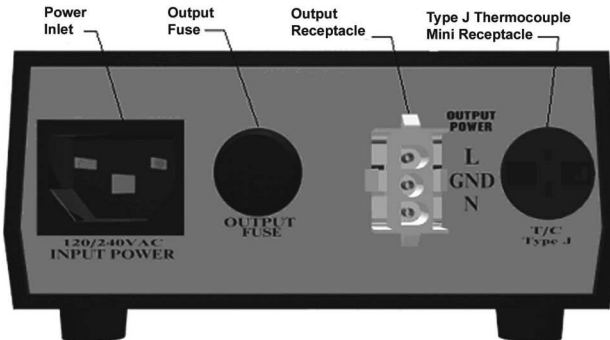

Figure 2: Pictorial of Controller (Back)
1. Plug the input power cord into the controller (see Figure 2 for input power receptacle location). Then connect the other end of power cord into a properly grounded 120VAC or 240VAC outlet.